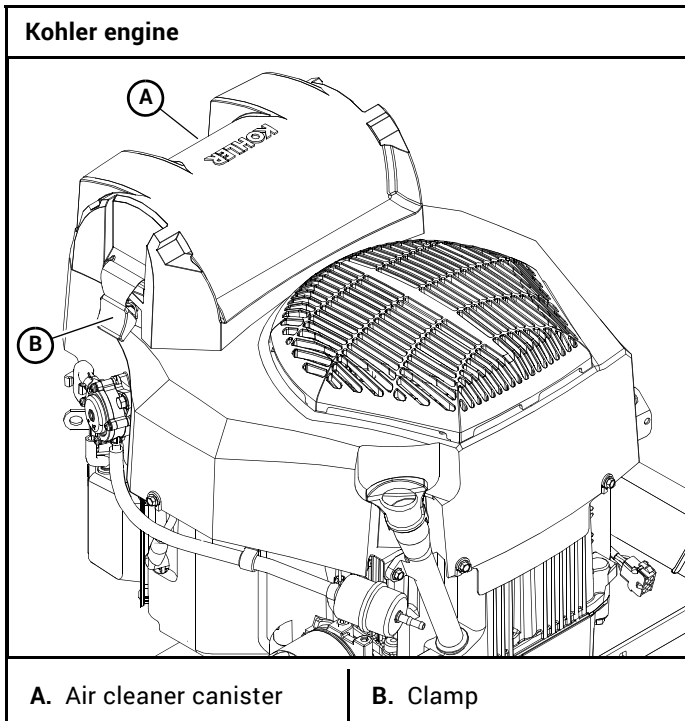

Figure 4-11
A specially designed dry filter is standard equipment on these mowers and supplies clean combustion air to the engine. Figure 4-11
3. Reinstall the top of the canister housing. Make sure it seals all the way around the lower part of the housing, then tighten the clamps. Figure 4-11